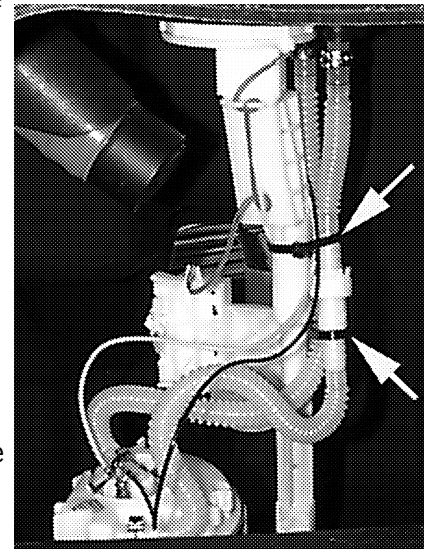

Figure 1
- Ensure the inner filler neck flap moves freely. Affix the two flexible hoses in the fuel tank exactly as shown in Figure 1, using two tie-straps.